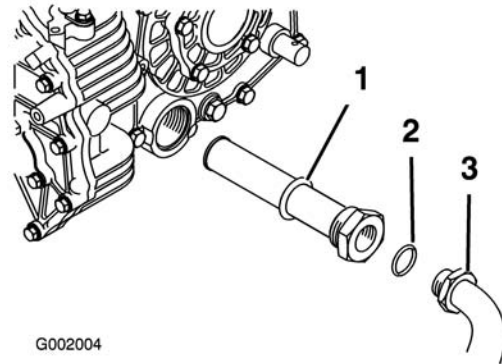

Figure 64
5. Remove the hydraulic hose and 90° fitting (Figure 64).